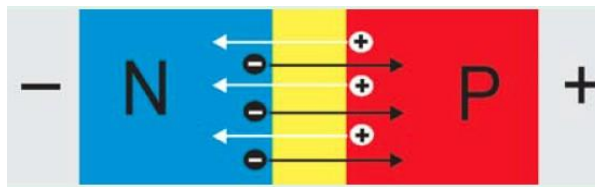

Figure2.ForwardBiasedPNJunctionDiode
- The movement of holes and electrons in a forward biased diode is shown in Figure 2.